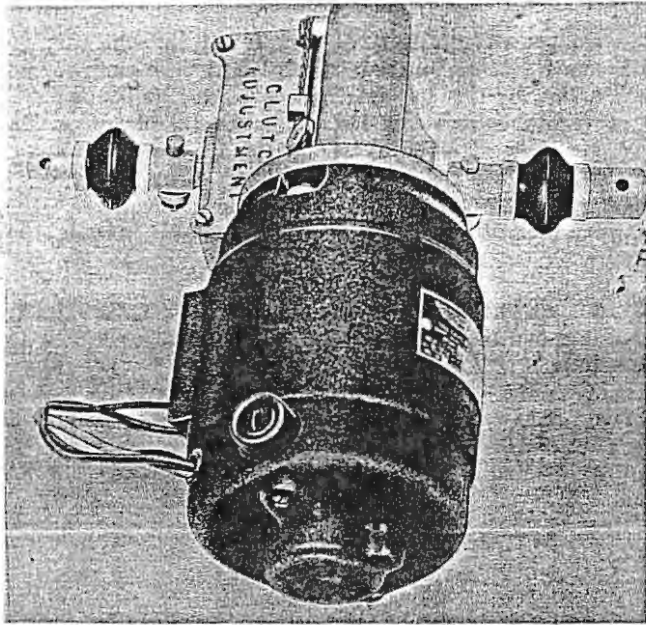

Figure 2-38. Flap Motor and Gearbox Assembly
- h. Remove the flap motor assembly (figure 2-38). If necessary, disconnect the flap chain to obtain enough slack to remove it from the sprocket. The repair link must be removed to disconnect the chain.